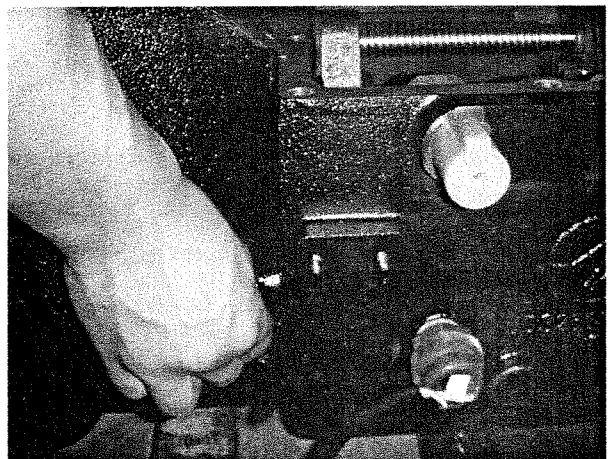

Fig 2-14
(2) Pull out the shaft arm slightly (Fig 2-14).